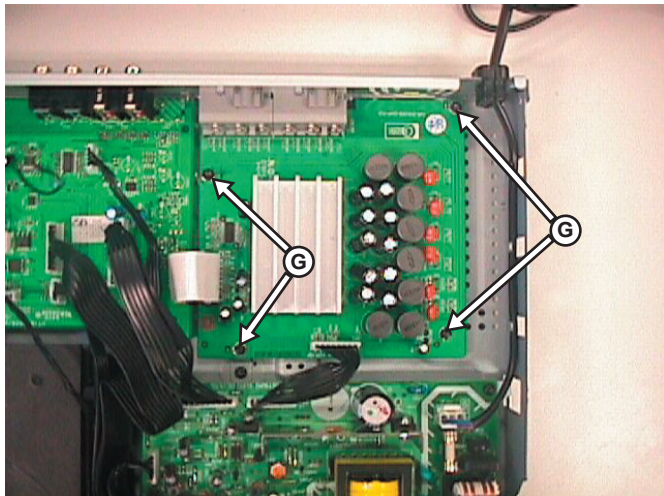

Figure 3-6
- 1) Loosen 4 screws F and 2 screws G (See Figure 3-6 & Figure 3-7) to remove Amp-Module Board